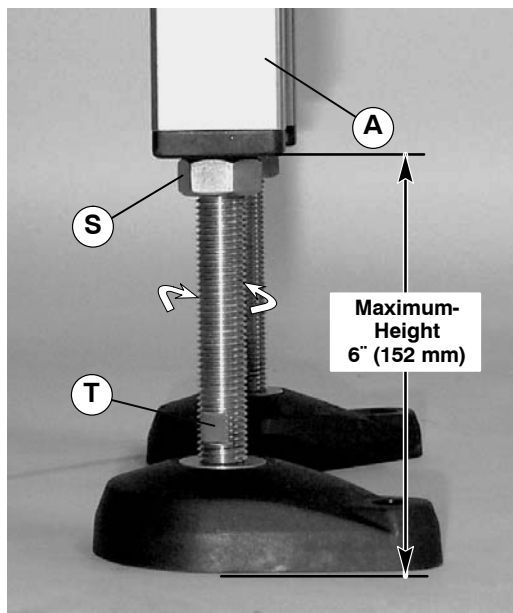

Figure 9
1. Loosen nut (S of Figure 9).
5. Tighten nut (S of Figure 9) to secure each foot assembly.